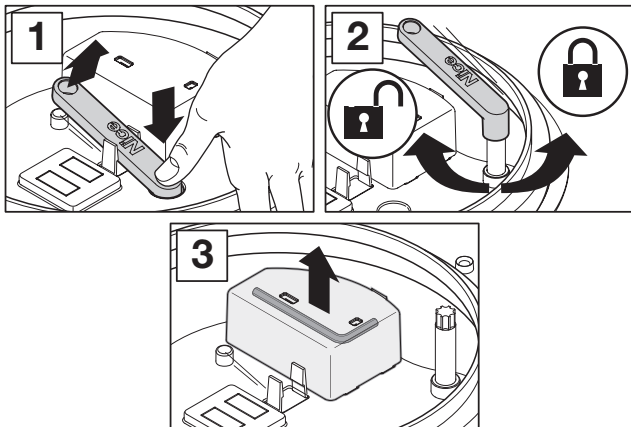

Figure 11 - MANUAL RELEASE
4. Remove the Allen key inside the lid (phase 3 - fig. 9) and then loosen the grub screw of the cams (phase 4 - fig. 11) so that they can be turned freely by hand.